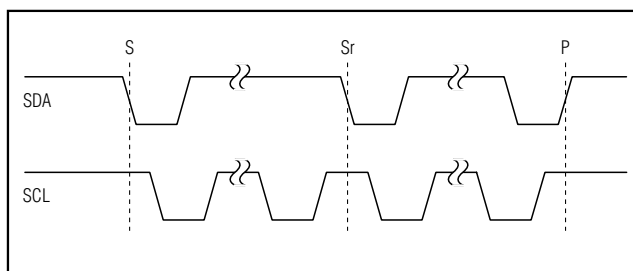

Figure 3. START and STOP Conditions
The master initiates a transmission with a START condition (S), (a high-to-low transition on SDA with SCL high). The master terminates a transmission with a STOP condition (P), (a low-to-high transition on SDA while SCL is high) (Figure 3). A START condition from the master signals the beginning of a transmission to the MAX5548. The master terminates transmission by issuing a STOP condition. The STOP condition frees the bus.